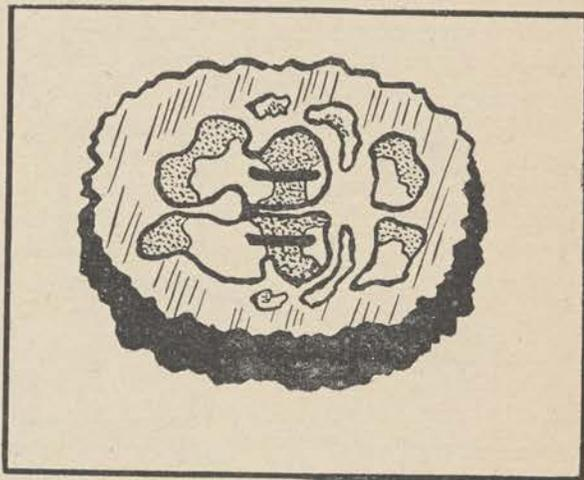

Figure 278.
a. Cross sections of walnuts make decorative buttons or may be laced together with thin strips of leather to make a belt (fig. 278).